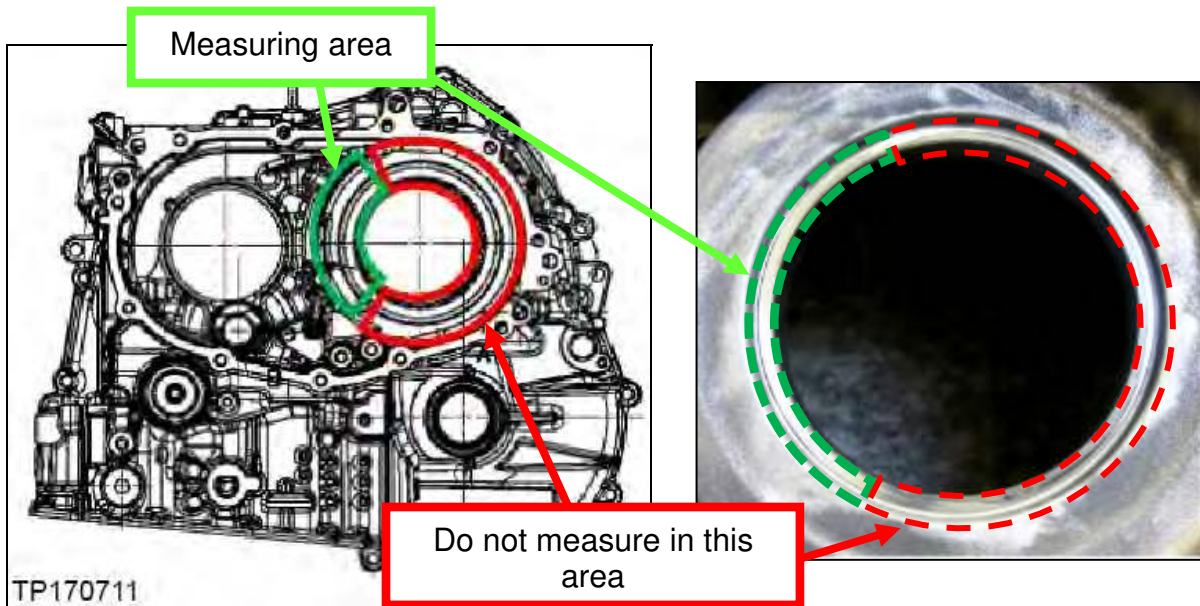

Figure 4M
- Refer to the Figures 4M and 5M and then proceed to page 55.
IMPORTANT: Please refer to Figure 4M for acceptable areas (highlighted in green) to measure “**Y**”.